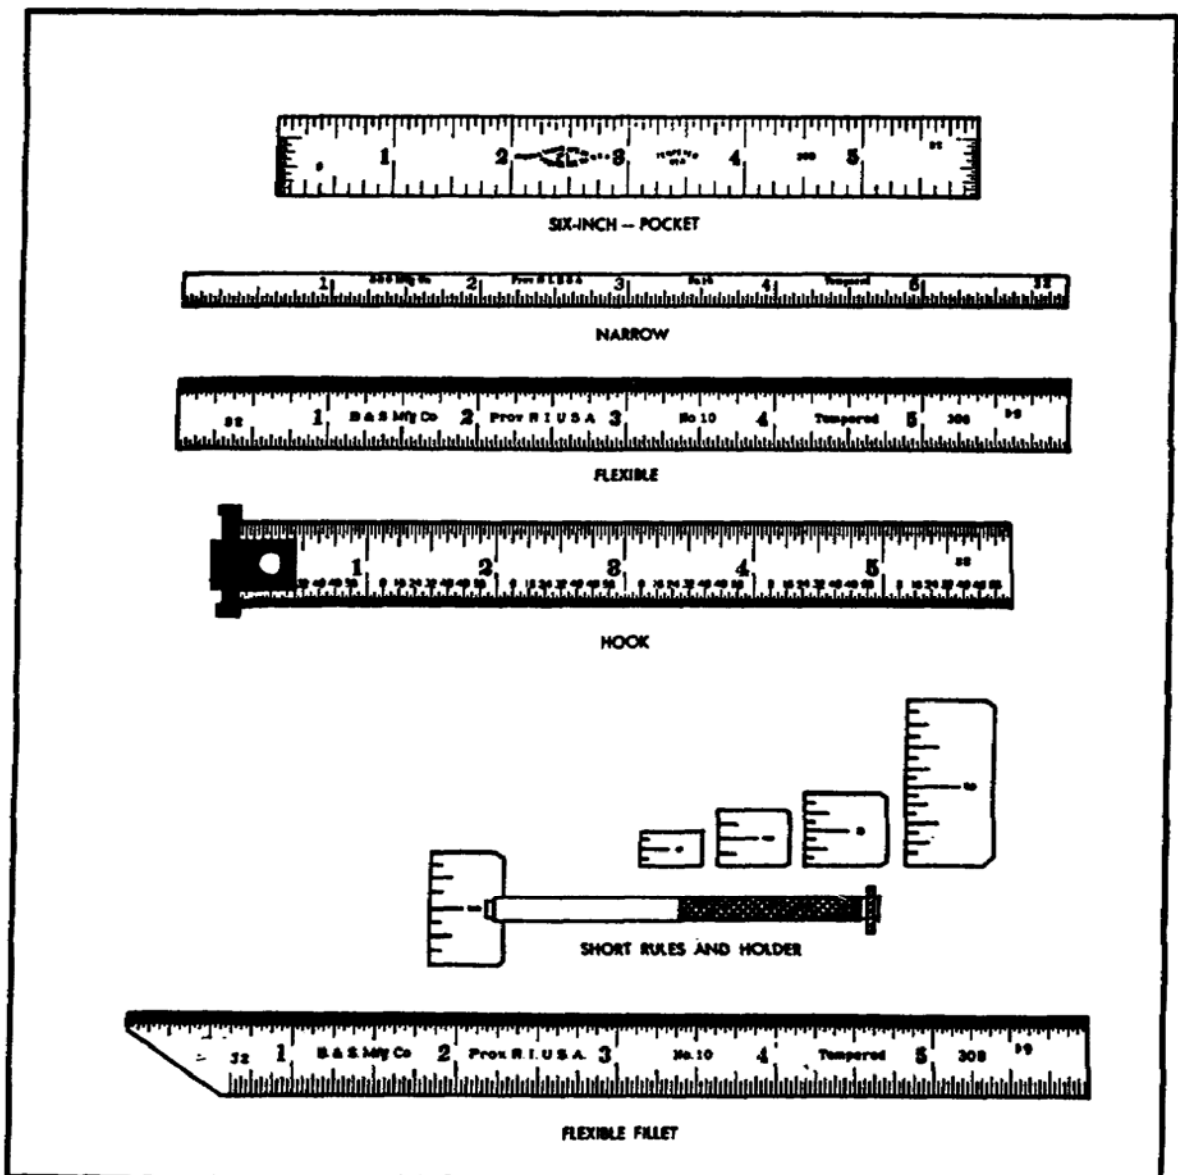

FIGURE 163. TYPE OF STEEL RULES.
(1) *Steel Rules.* Steel rules (figure 163) are available from a fraction of an inch in length up to 4 feet or more; in machine shops, the 6